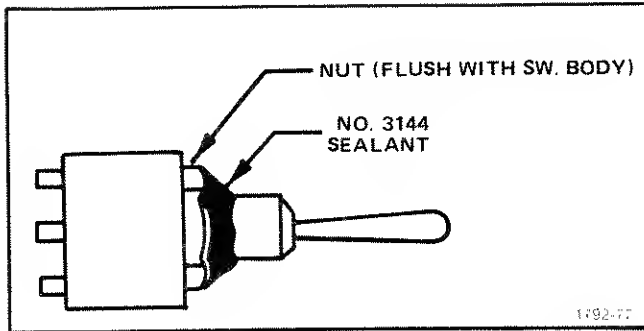

Fig. 5-24. Application of sealant to RECORD toggle-switch nut.
2. Install nut that was supplied with the switch, as shown in Fig. 5-24.
3. Form a bead of No. 3144 sealant around the bushing/nut interface as shown in Fig. 5-24.